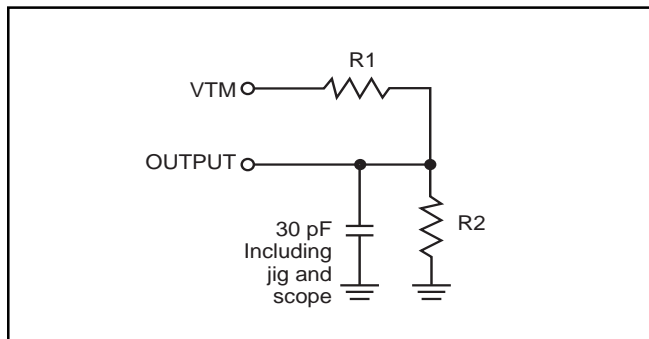

Figure 1
- Test conditions assume signal transition times of 5 ns or less, timing reference levels of 0.9V/1.5V, input pulse levels of 0.4 to VDD-0.2V/VDD-0.3V and output loading specified in Figure 1.
1. Test conditions assume signal transition times of 5 ns or less, timing reference levels of 0.9V/1.5V, input pulse levels of 0.4V to VDD-0.2V/VDD-0.3V and output loading specified in Figure 1.